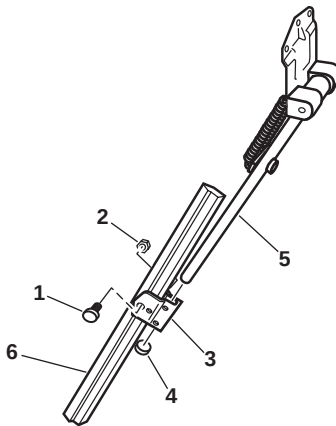

Figure 2. Wiper Blade Replacement
2. Remove the three allen head screws (figure 2, item 1) and three locknuts (figure 2, item 2) from the blade attachment clip (figure 2, item 3). Discard the locknuts.
3. Remove the end cap (figure 2, item 4) from the windshield wiper blade assembly (figure 2, item 5).
4. Remove the windshield wiper blade (figure 2, item 6) and blade attachment clip (figure 2, item 3) from the windshield wiper blade assembly (figure 2, item 5).
1. Install the new windshield wiper blade (figure 2, item 6) and blade attachment clip (figure 2, item 3) onto the windshield wiper blade assembly (figure 2, item 5) and secure it with three allen head screws (figure 2, item 1) and three new locknuts (figure 2, item 2).
2. Install the end cap (figure 2, item 4) onto the windshield wiper blade assembly (figure 2, item 5).